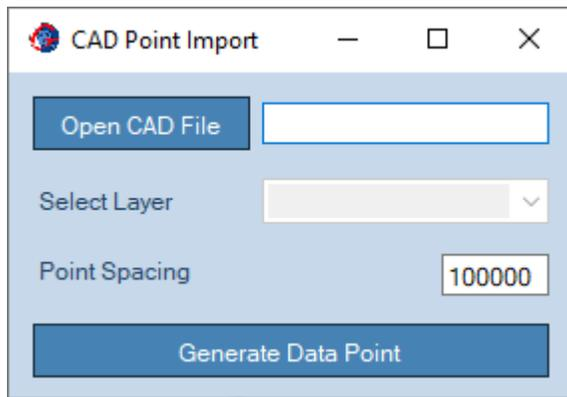

Figure 21: CAD Point Import.
- **CAD File:** If this option is selected the dialog window shown in Figure 21 is displayed. The cloud of points will be created from a set of 2D/3D polylines from a specific layer.